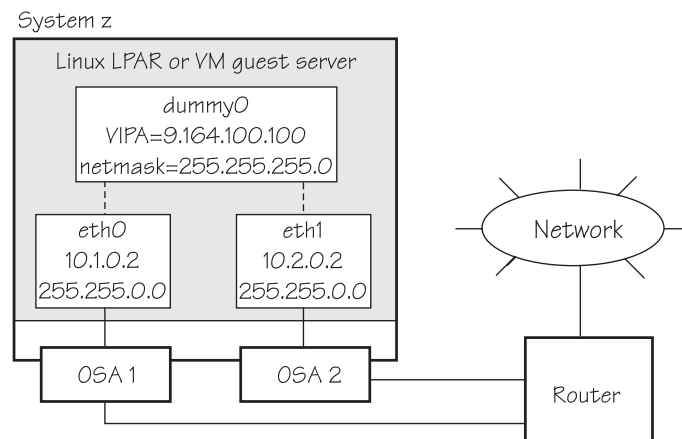

Figure 23. Example of using Virtual IP Address (VIPA)
- Static routing (shown in the example of Figure 23).
Figure 23 shows the network adapter configuration used in the example.